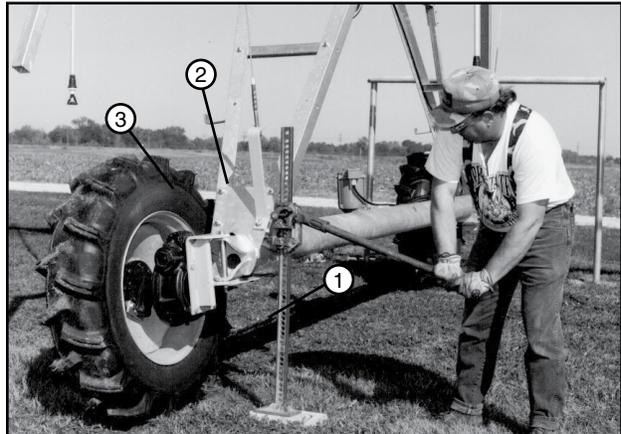

Figure 32-1 1. Jack 2. Drive Unit 3. Tire
3. The wheels on each drive unit must be turned into the tow position. Use a jack to lift one side of the drive unit until the tire is off of the ground. See figure 32-1.